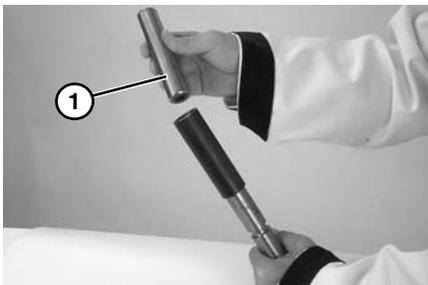

Figure 61
5. Place open end of pusher (Figure 61, item 1) into sleeve.